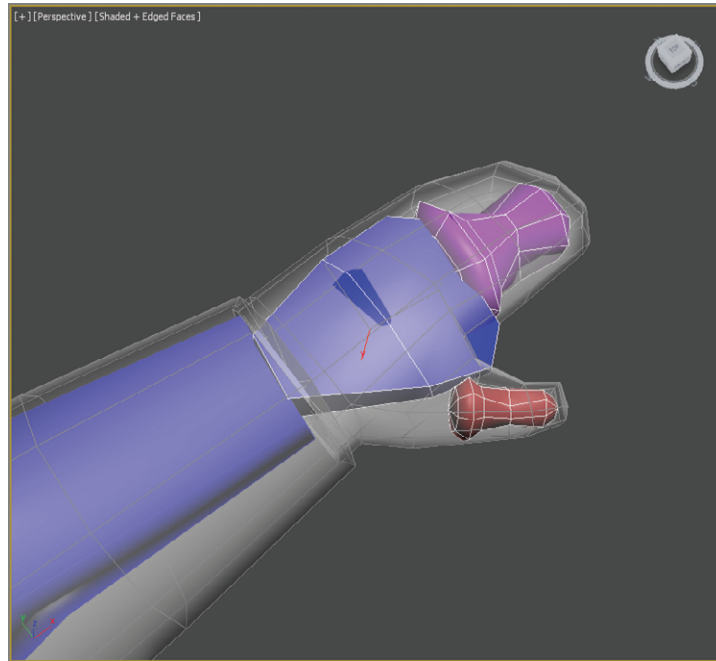

FIGURE 12.14 Match the biped's fingers to the model's fingers.
6. The hands need only two fingers (the second finger is actually the thumb) and two links each. Adjust the biped's fingers to match the model's fingers, as shown in Figure 12.14.